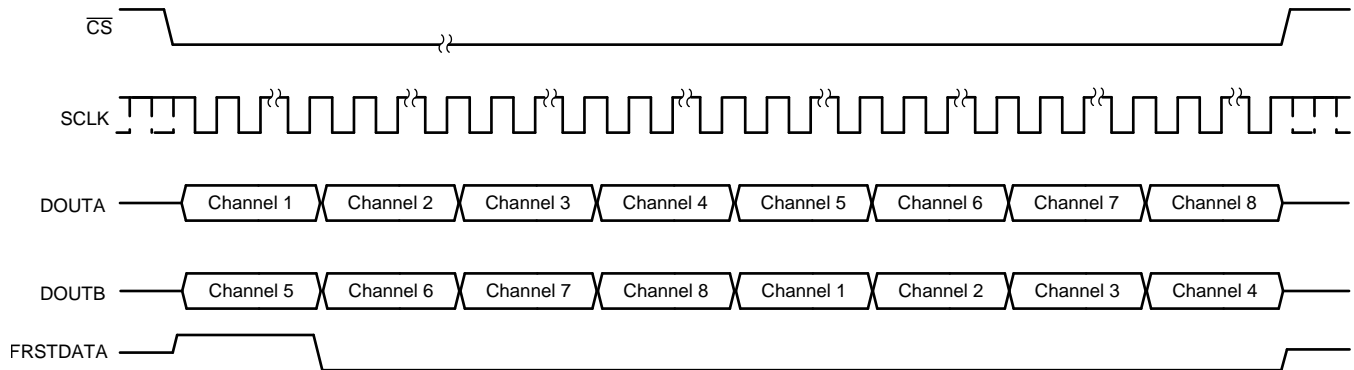

Figure 69. Data Read Back in the Serial Interface Using Either DOUTA or DOUTB Timing Diagram
- The conversion data can be read out of the devices using only one of the two serial output lines, DOUTA or DOUTB. In this case, using DOUTA for output data read back is recommended because channel 1 data appear first on DOUTA followed by the data for other channels in ascending order. To read the data for all channels, provide a total of $16 \times 8 = 128$ SCLK cycles for the ADS8588S, $16 \times 6 = 96$ SCLK cycles for the ADS8586S, and $16 \times 4 = 64$ SCLK cycles for the ADS8584S. This entire data frame can be created within a single \overline{CS} pulse or each group of 16 SCLK cycles can be individually framed by the \overline{CS} signal. The primary disadvantage of using just one data line for reading conversion data is that the throughput is reduced if a data read operation is performed after conversion. This operation is illustrated in Figure 69.
- Alternatively, only DOUTB can be used for reading the conversion data from all channels. In this case, everything else remains the same and the output bit stream contains data for all channels in the following order: channels 5, 6, 7, 8, 1, 2, 3, and 4 for the ADS8588S; channels 4, 5, 6, 1, 2, and 3 for the ADS8586S; and channels 3, 4, 1, and 2 for the ADS8584S. This operation is illustrated in Figure 69.